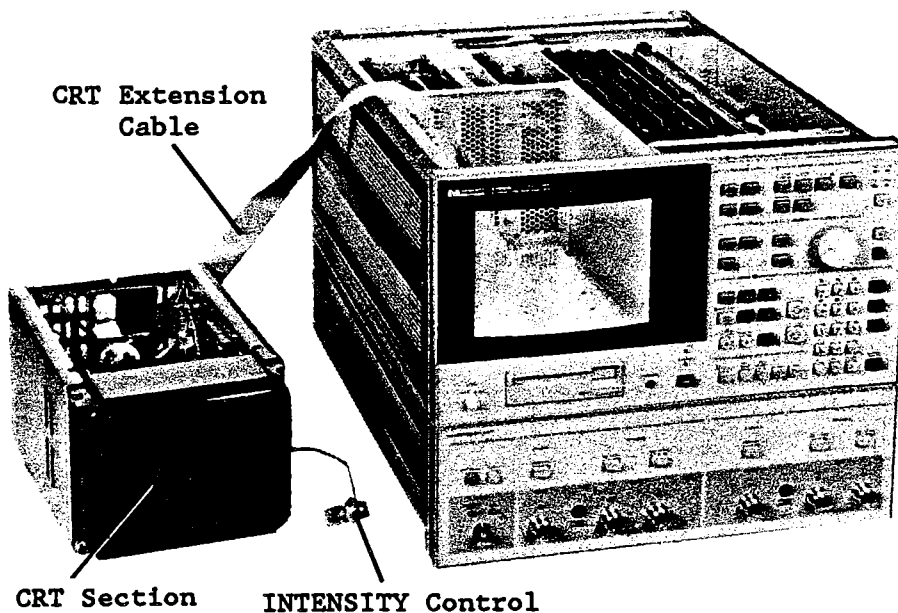

Figure 3-12. Display Adjustments Setup
9. Place the display module near the HP 4195A as shown in Figure 3-12.